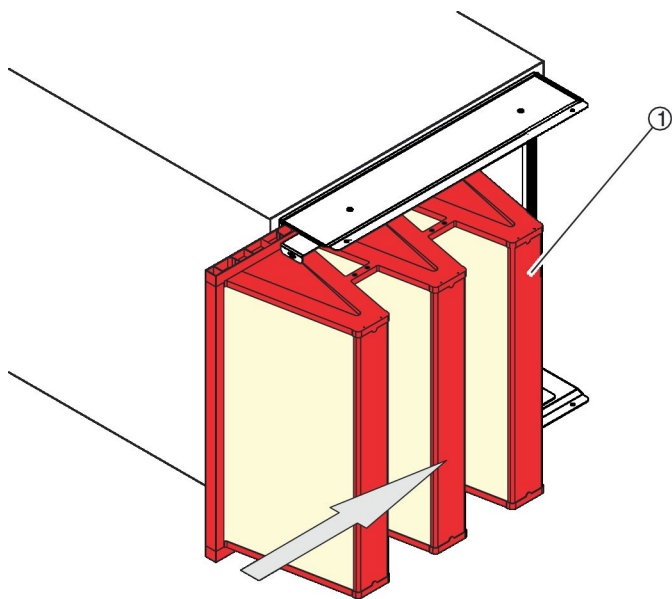

Fig. 27: Replacing the filter element
6. ▶ Slide the new filter element (Fig. 27 /1) in from the side.